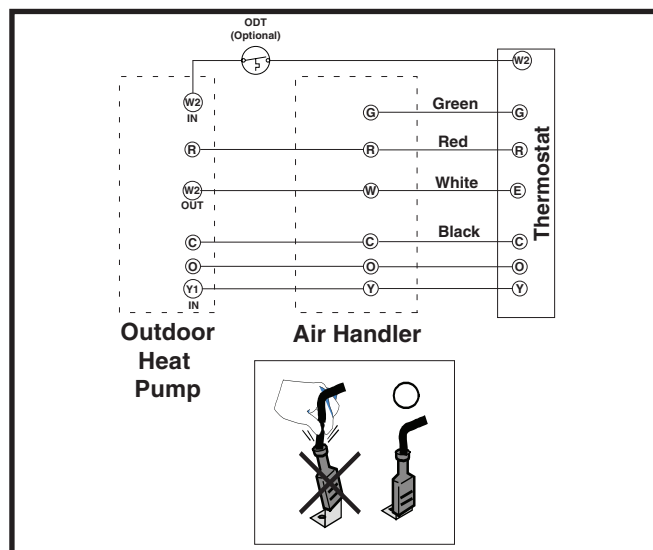

Figure 3. Typical Thermostat Connections
- For applications utilizing the outdoor thermostatic switch within these units, the installer shall need to wire in the switch as appropriate for their application. Refer to Figure 3 for typical configurations and the unit wiring diagram as needed.